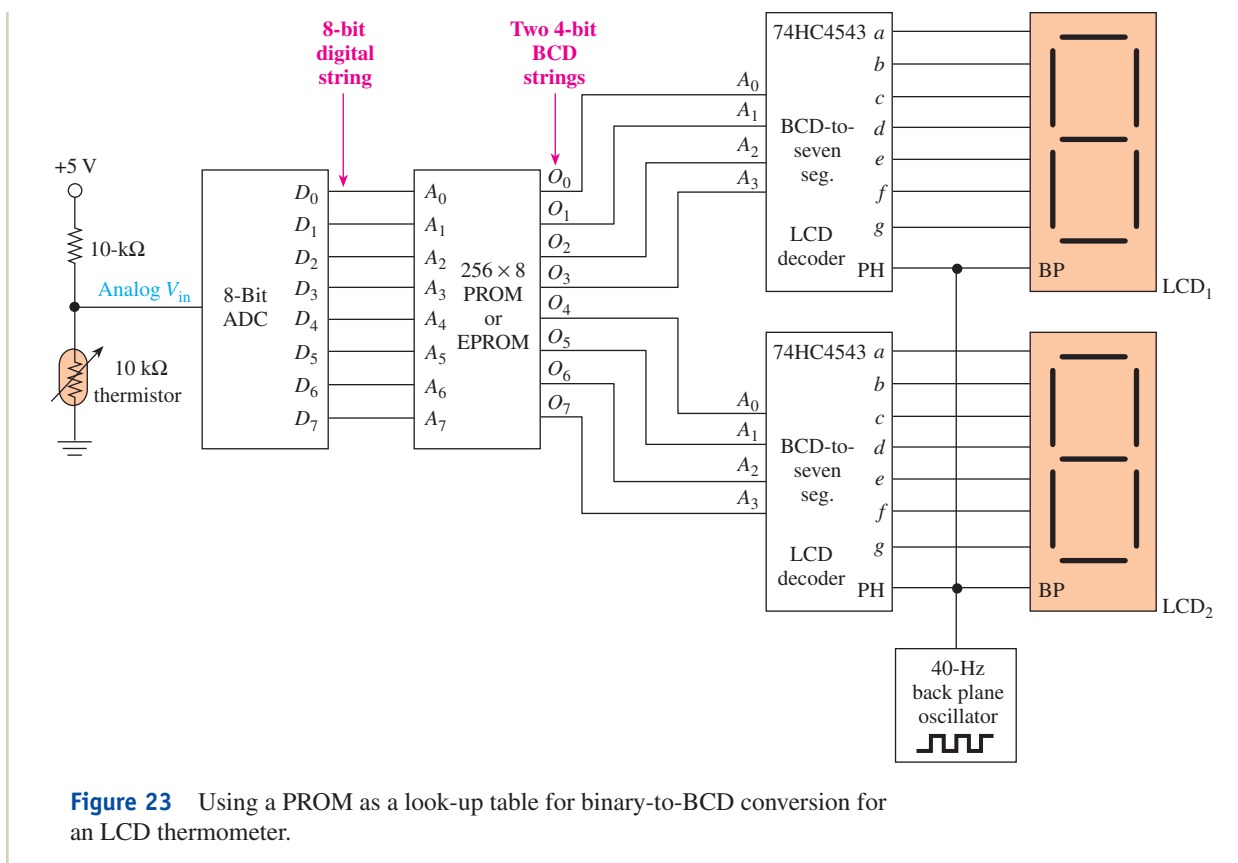

Figure 23 Using a PROM as a look-up table for binary-to-BCD conversion for an LCD thermometer.
Another application, one that covers several topics from within this text, is a digital Celsius thermometer. In this application, using a PROM look-up table simplifies the task of converting meaningless digital strings into decimal digits. Figure 23 shows a block diagram of a two-digit Celsius thermometer.
For the circuit of Figure 23 to work, a binary-to-two-digit BCD look-up table has to be programmed into the PROM. Because a standard thermistor is a nonlinear device, as the temperature varies the binary output of the ADC will not change in proportional steps. Programming the PROM with the appropriate codes can compensate for that and can also ensure that the output being fed to the two decoders is in the form of two BCD codes, each within the range 0 to 9. The appropriate codes for the PROM contents are best determined through experimentation. For example, if at 30°C the output of the ADC is 0100 1100 ($4C_{16}$), then location $4C_{16}$ of the PROM should be programmed with 0011 0000 (30_{BCD}).
The 74HC4543 will convert its BCD input into a seven-segment code for the liquid-crystal displays (**LCDs**). Liquid-crystal displays consume significantly less power than LED displays but require a separate square-wave oscillator to drive their backplane. As shown in Figure 23, a 40-Hz oscillator is connected to the phase input (PH) of each decoder and the backplane (BP) of each LCD.
24. In Figure 23, assume that the thermistor resistance is 10 kΩ at 25°C, thus making D_7 to D_0 equal to 1000 0000 (one-half of full scale). Determine what data value should be programmed into the EPROM at address 1000 0000.